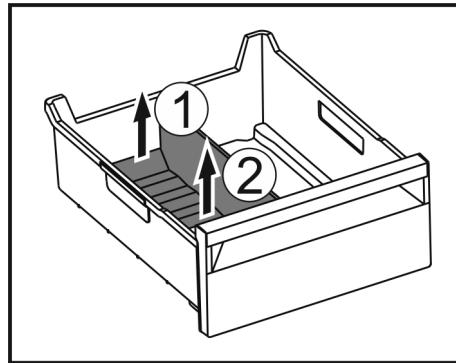

Fig. 176
- ▶ Lift the rear part of the ice compartment divider. Fig. 176 (1)
- ▶ Remove the ice compartment divider upwards. Fig. 176 (2)